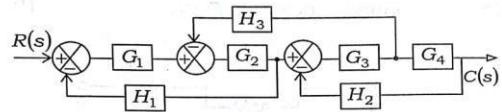

Fig. 3
3. (a) Determine transfer function $\frac{C(s)}{R(s)}$ for the block diagram shown in Fig. 3 using reduction technique. 10